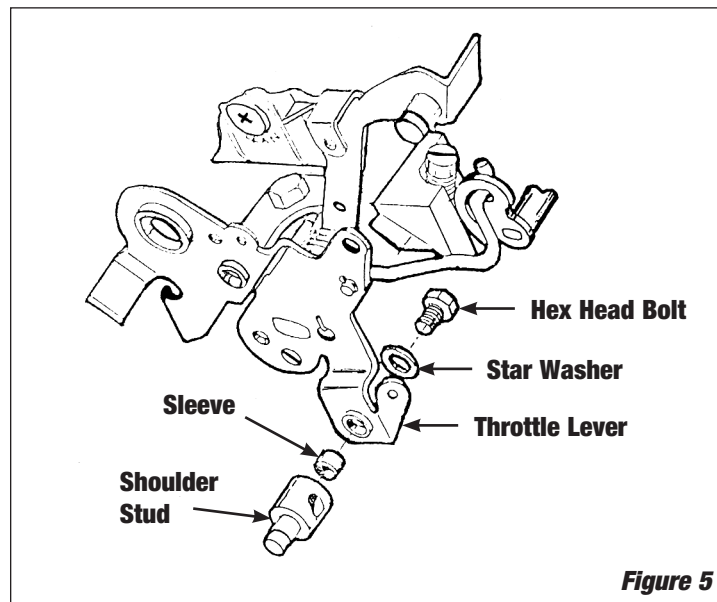

Figure 5
3. On vehicles equipped with an automatic transmission, a kick-down stud is required at the lower carburetor lever to operate the transmission kick down rod. This stud is supplied with each manifold and will bolt directly to Edelbrock Performer Series and Thunder Series carburetors (**See Figure 5**).